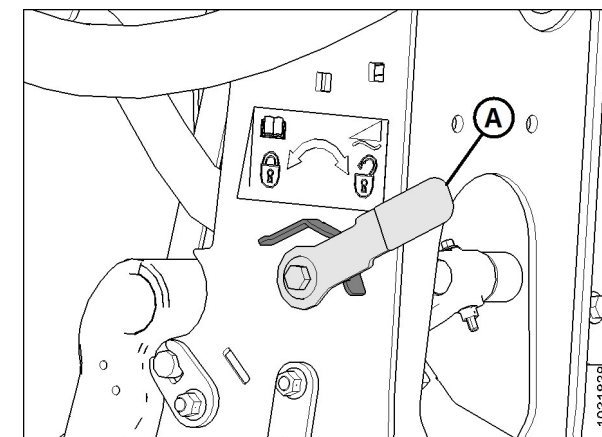
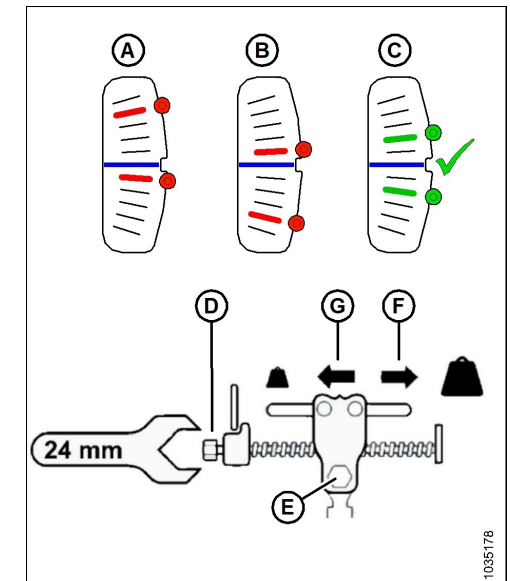

Figure 3: Float Unlocked – Left Side Shown
Figure 10: Wing Balance Adjustment
- On both sides of the float module, place the header float locks (shown in Figure 3) in the locked position.
- On the flex checker plate, pinch indicators (A) and (B) together with your fingers.
- Use multi-tool (C) to rotate the flex checker plate up until the pin reaches the end of the slot. The lower indicator (B) will move down to give the first reading.
- Use multi-tool (C) to rotate the flex checker plate down until the pin reaches the end of the slot. The upper indicator (A) will move up to give the second reading.
- Refer to Figure 10 and interpret the indicator positions as follows: